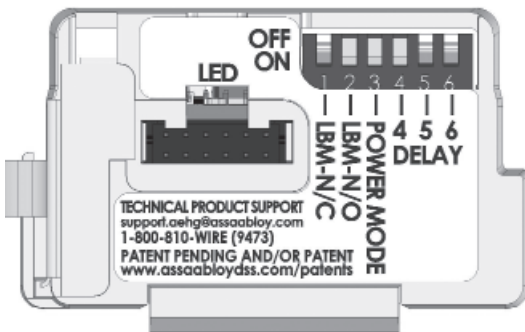

Figure 12 DIP Switch Setting for Power Mode Installation
5. Ensure DIP switch (position 3) enables Power Mode (Figure 12)